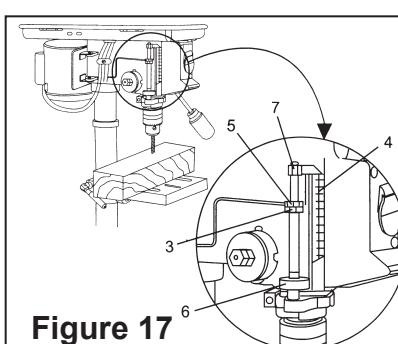

Figure 17
- D. Spin the lower nut (3) down to contact the depth stop lug (6) on the head (Figure 17).
- E. Spin the upper nut (5) down and tighten against the lower nut (3)(Figure 17).
Depth scale method (Figure 17)